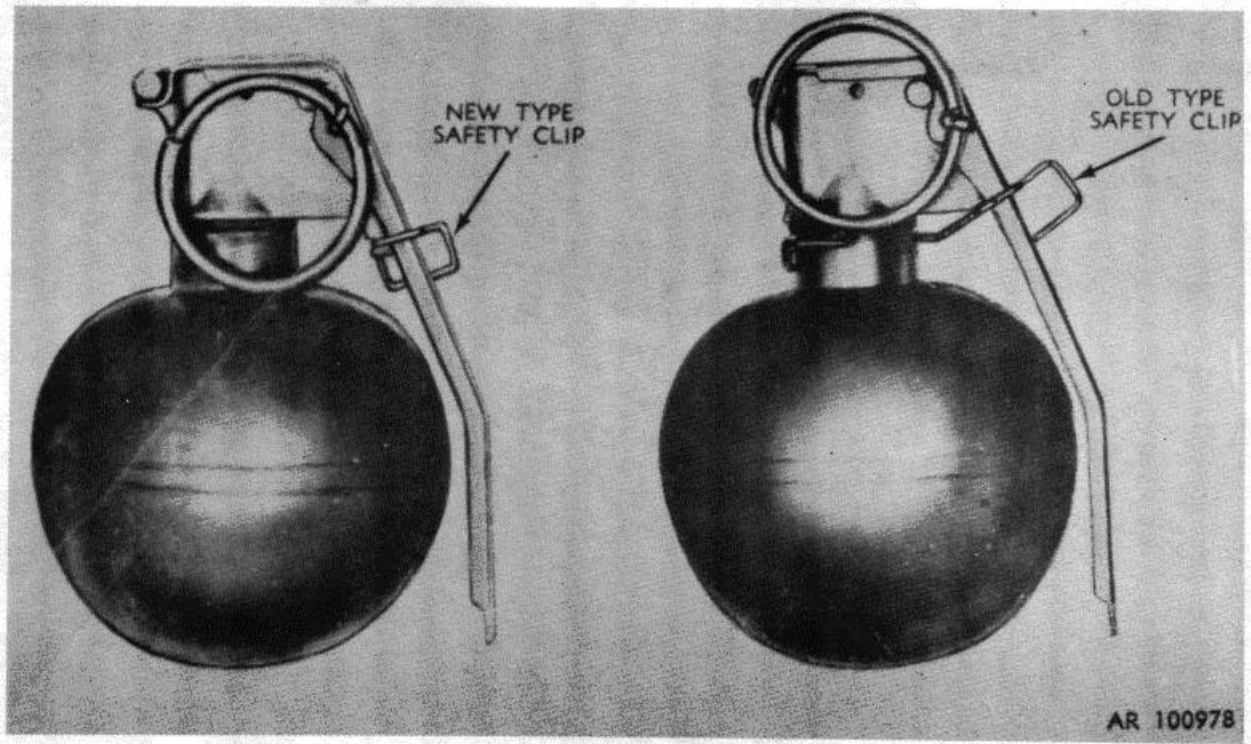

Figure 3-6. Fuze seated w/safety clips.
(8) Fuze seated and correct assembly of safety clip (when installed) (fig. 3-6).